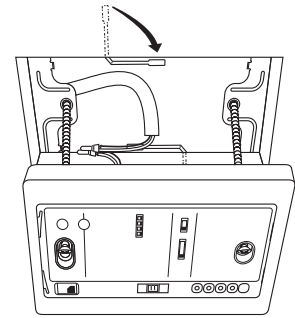

Fig. 8-31
- (6) Adjust the enclosed spacers so they are several millimeters thicker than the ceiling material and hold the receiver in place temporarily with the 2 enclosed small screws. (M4 X 40)
- (7) Bend parts A and B back so they fit in the opening and are in the gap between the surface of the ceiling and the receiver; then tighten the screws. Do not use too much force when tightening the screws. Doing so may warp or damage the case. Move the receiver by hand and check that it can move just a little. (Fig. 8-31)
- (8) Attach the face plate.